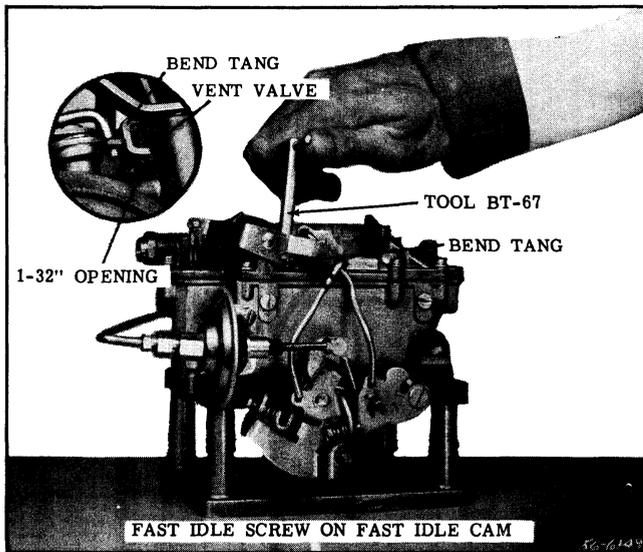

Fig. 8-114 Idle Vent Adjustment
2. If necessary to adjust, use Tool BT-67 to bend the tang on the pump arm as shown in Fig. 8-114.